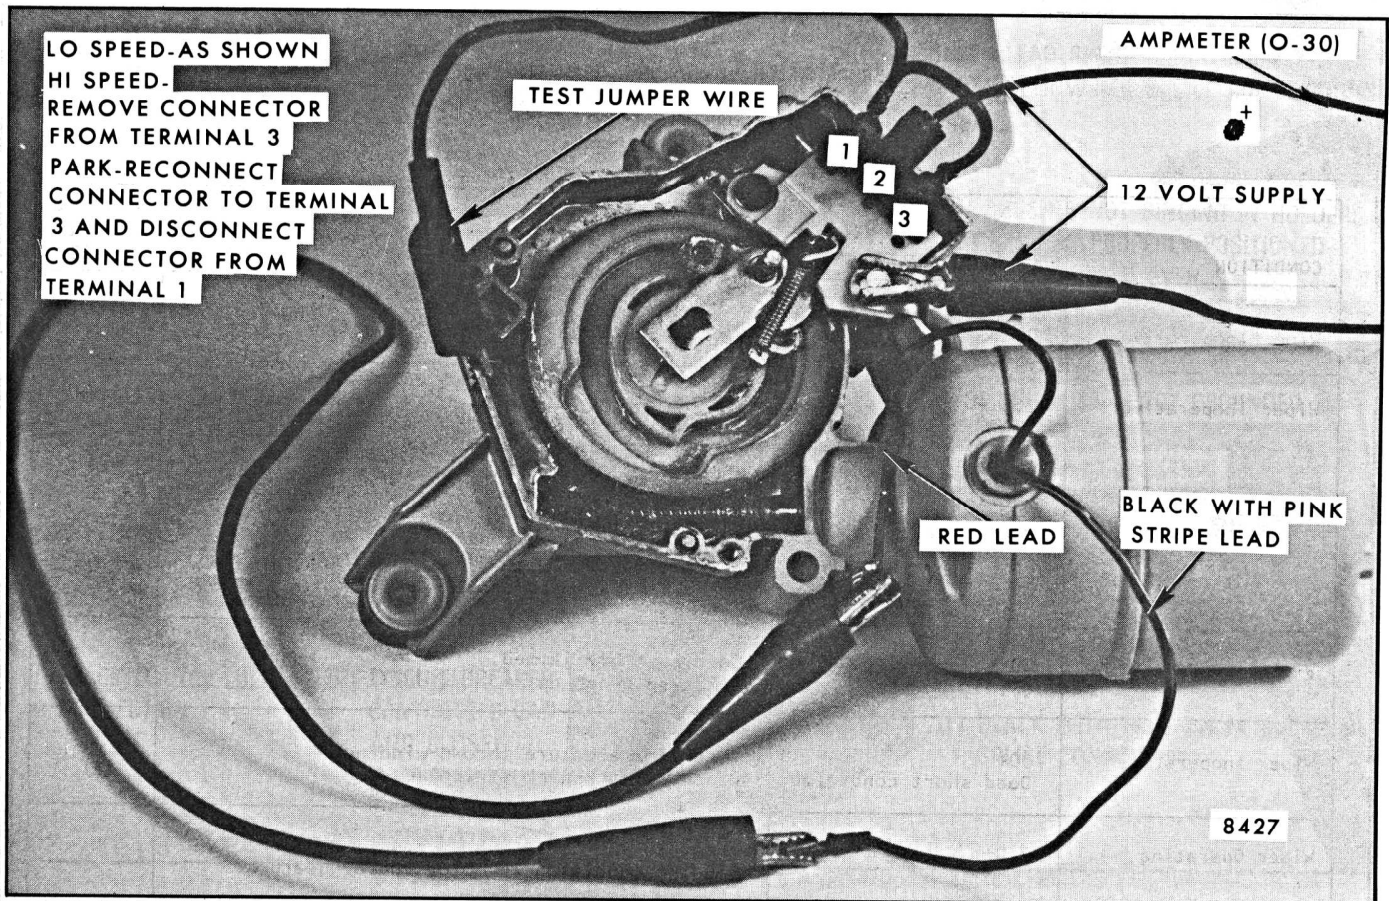
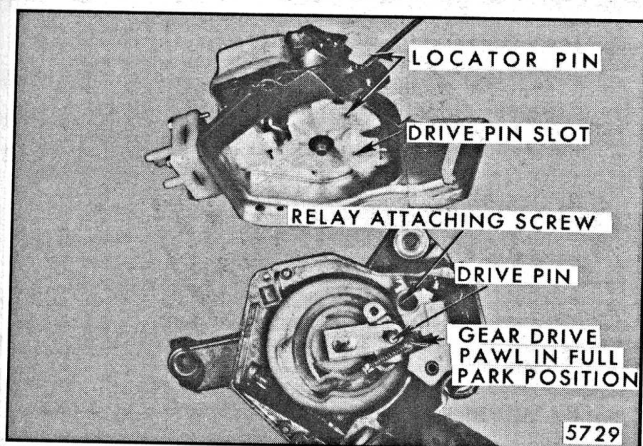
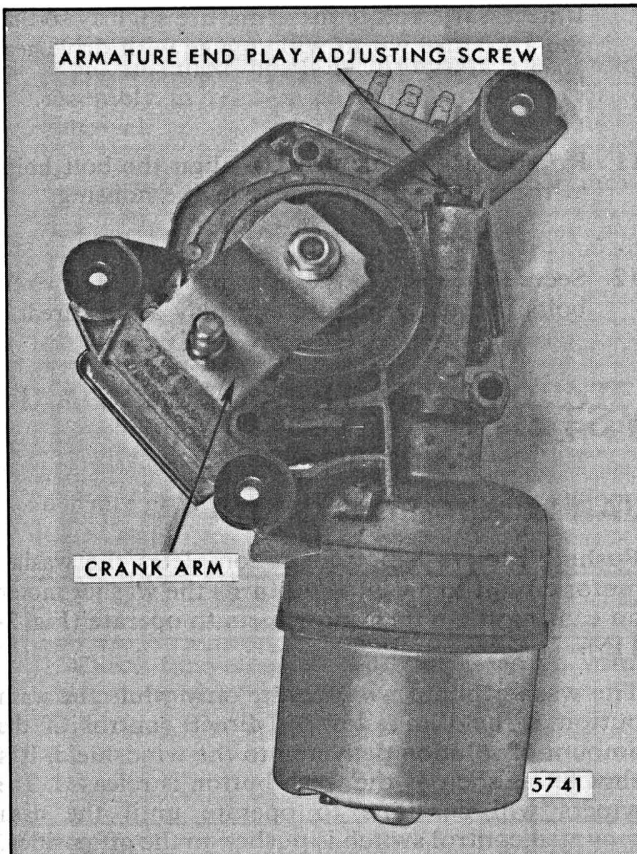

Fig. 2-101-Modified Pulse Motor Bench Operation Test
Fig. 2-104-Installing Pump to Motor
Fig. 2-110-Crank Arm in Park Position
2. If wiper gear drive pawl is in full park position (Fig. 2-104), operate the motor as required to move pawl out of relay slot (Fig. 2-101). If wiper will not run, remove the gear mechanism.
3. If wiper gear drive pawl is not in full park position (Fig. 2-74), remove relay attaching screw (Fig. 2-104) and lift relay- terminal board assembly out of gearbox.
6. Refer to Figure 2-101 and operate wiper to park position, then reinstall washer pump. Refer to reassembly of washer to wiper gearbox (Fig. 2-104).
7. Refer to Figure 2-101 and operate wiper to park position; then position crank arm on output shaft flat so that it points in the direction shown in Figure 2-110. Next, install crank arm retaining nut fingertight.